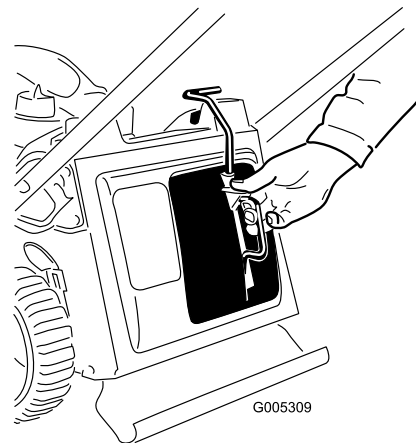

Figure 28
3. Insert the mulch plug (Figure 28).